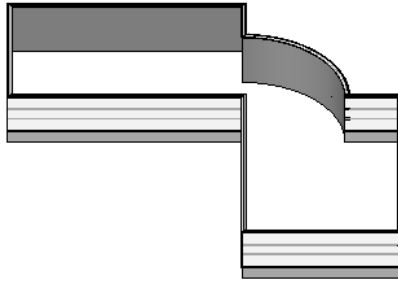

Figure 3-49 3D view of the completed exterior wall profile
5. Now, from the **View** tab of the ribbon, choose **Create > 3D View> Default 3D**. The view of the building model view will appear, as shown in Figure 3-49.